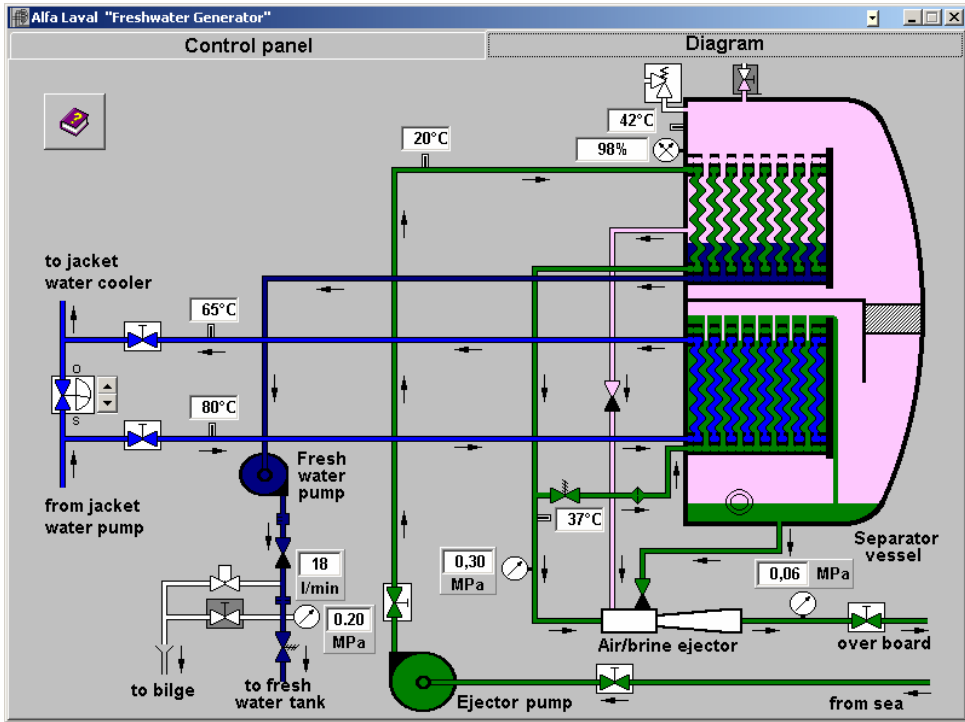

Fig. 2 Freshwater generator plant diagram
2. Combined air/brine ejector /fig. 2/
3. Ejector pump /fig. 2/
4. Freshwater pump /fig. 2/